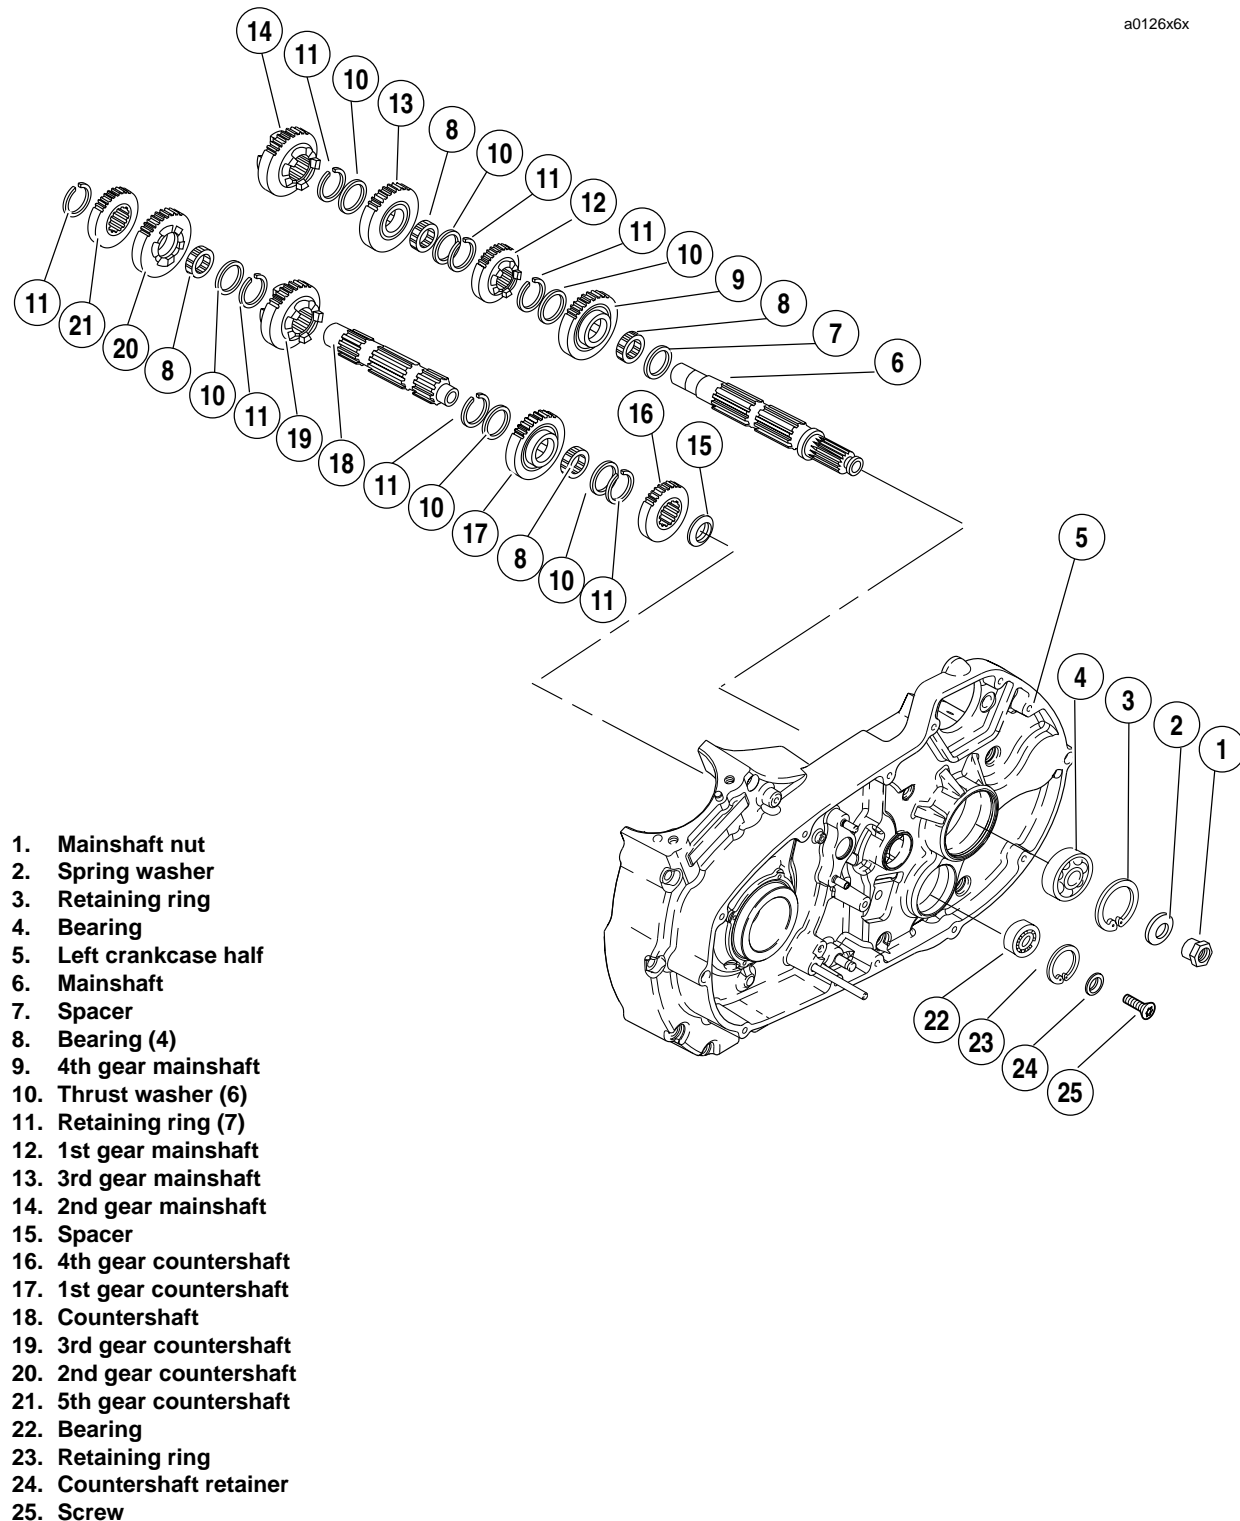

Figure 6-34. Transmission Assembly Left Crankcase Half
1. See Figure 6-34. Install **new** retaining ring (11) and thrust washer (10) onto mainshaft (6) in the first ring groove from the end.
2. Install split bearing (8) onto mainshaft.
3. Locate mainshaft 4th gear (9), which can be identified by the two radial grooves at one side. Slide gear (9) onto shaft. Position gear over bearing (8) next to spacer (7).
4. Place spacer (7) over mainshaft and position next to split bearing (8).
5. Slide mainshaft 1st gear (12) onto mainshaft with the fork groove facing 4th gear (9).
6. Install thrust washer (10) and new retaining ring (11) next to mainshaft 1st gear (12).
1. See Figure 6-34. Install new retaining ring (11) and thrust washer (10) onto countershaft (18) in the second ring groove from the end.
2. Install split bearing (8) onto countershaft.
3. Locate countershaft 1st gear (17), which can be identified by the two radial grooves at one side. Slide gear (17) onto shaft. Position gear over bearing (8).
4. Install thrust washer (10) and new retaining ring (11) next to gear (17).
5. Locate countershaft 4th gear (16). This flat, shoulderless gear is splined and has a single radial groove at one side. Position gear next to retaining ring (11) on countershaft. Place beveled washer (spacer) (15) over end of shaft with beveled side away from countershaft 4th gear (16).
6. Install countershaft 3rd gear (19) on countershaft with fork groove facing away from countershaft 1st gear (17).
7. Install new retaining ring (11) on countershaft. Position new retaining ring in the second ring groove from the end. Install thrust washer (10) next to retaining ring (11). Install split bearing (8) in seat next to washer (10).